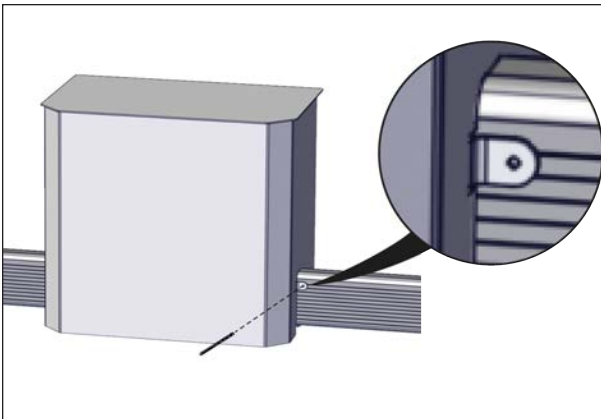

FIGURE 90: DRILL A HOLE THROUGH THE TAB
- When the control box is in place on the U-frame, use the provided 5/32" drill bit to drill a hole through the tab (located on the control box housing) and into the U-frame, and insert an 8-32 x 3/8" Hexagonal slotted thread-cutting screw, see Figure 90.